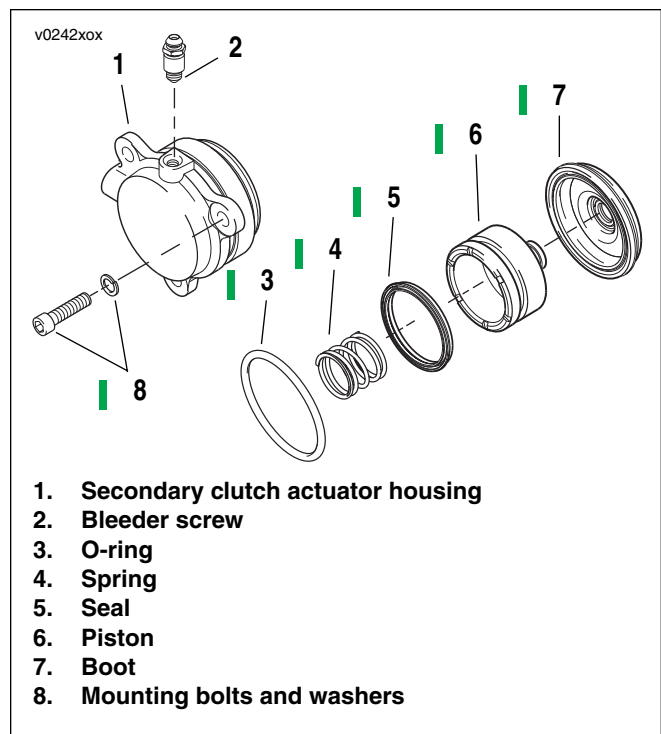

Figure 2-52. Secondary Clutch Actuator Components
1. See Figure 2-52. Pull off boot (7), piston (6), seal (5), and spring (4) from housing (1). Slip O-ring (3) off housing.
1. See Figure 2-52. Coat cylinder bore, piston, O-ring, boot, and bleeder screw with lubricant from service kit.
2. Orient a **new** seal (5) with square split lip toward rider side of actuator and fit to piston (6).
4. Install a **new** O-ring (3) into groove at base of secondary clutch actuator housing (1).